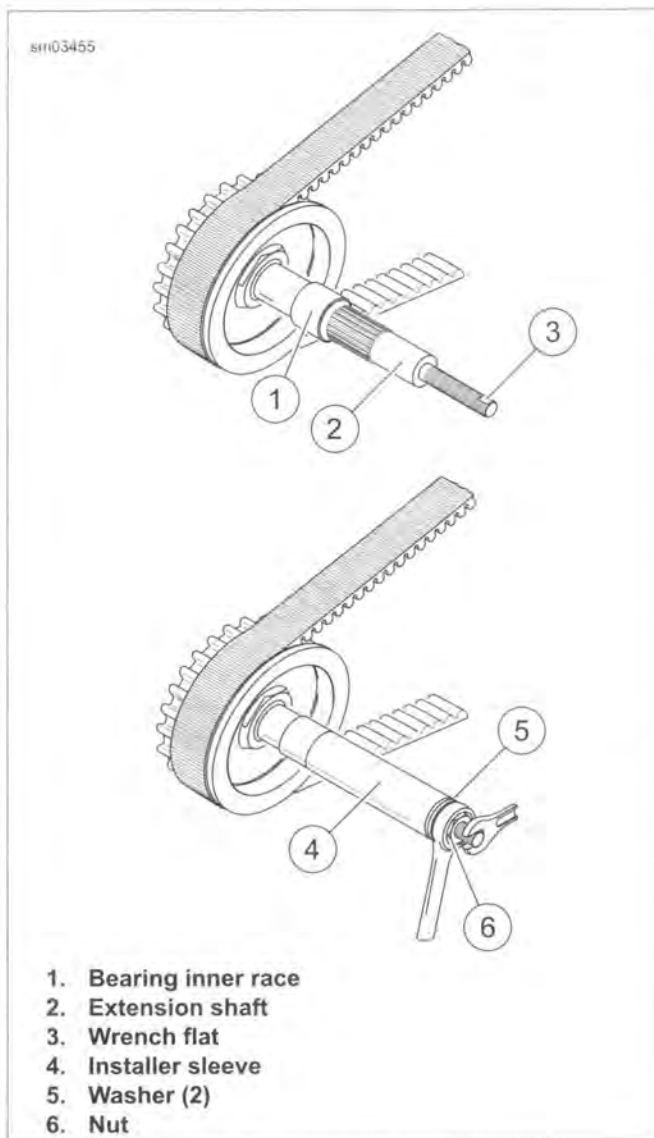

Figure 5-22. Installing Bearing Race
1. See Figure 5-22. Slide bearing inner race (1) onto mainshaft.